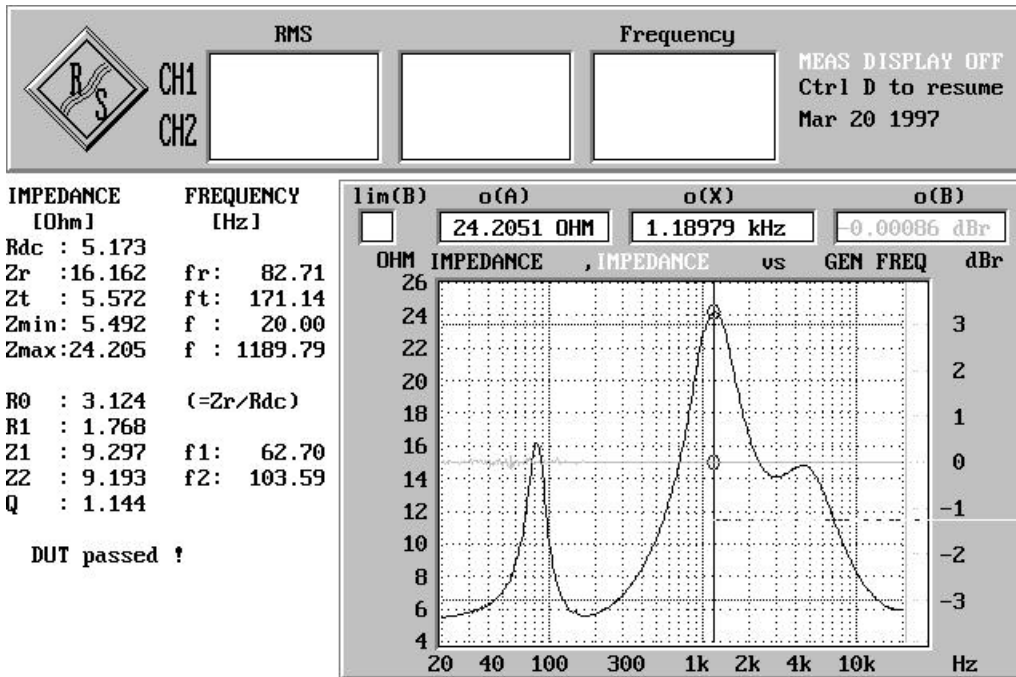

FIG 7: Impedance characteristic and evaluation of a multi-path loudspeaker (Trace B shows the impedance characteristic referenced to a "golden unit")
- TRACE B: the relative impedance characteristic is displayed as trace B while the absolute impedance characteristic is displayed as trace A (see Fig. 7).